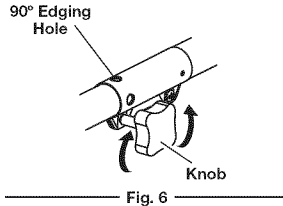

Fig. 6
1. Turn the knob counterclockwise to loosen (Fig. 6).
1. Turn knob counterclockwise to loosen (Fig. 6).
3. Turn the knob clockwise to tighten (Fig. 6).
For decorative trimming/edging with the line cutting head, lock the release button into the 90° hole (Fig. 6).